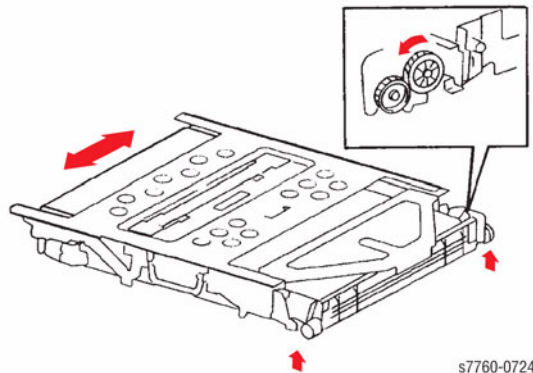

Figure 11 Re-positioning Transfer Belt
3. If the Transfer Belt is skewed or wrinkled, perform the following steps: (Figure 11)